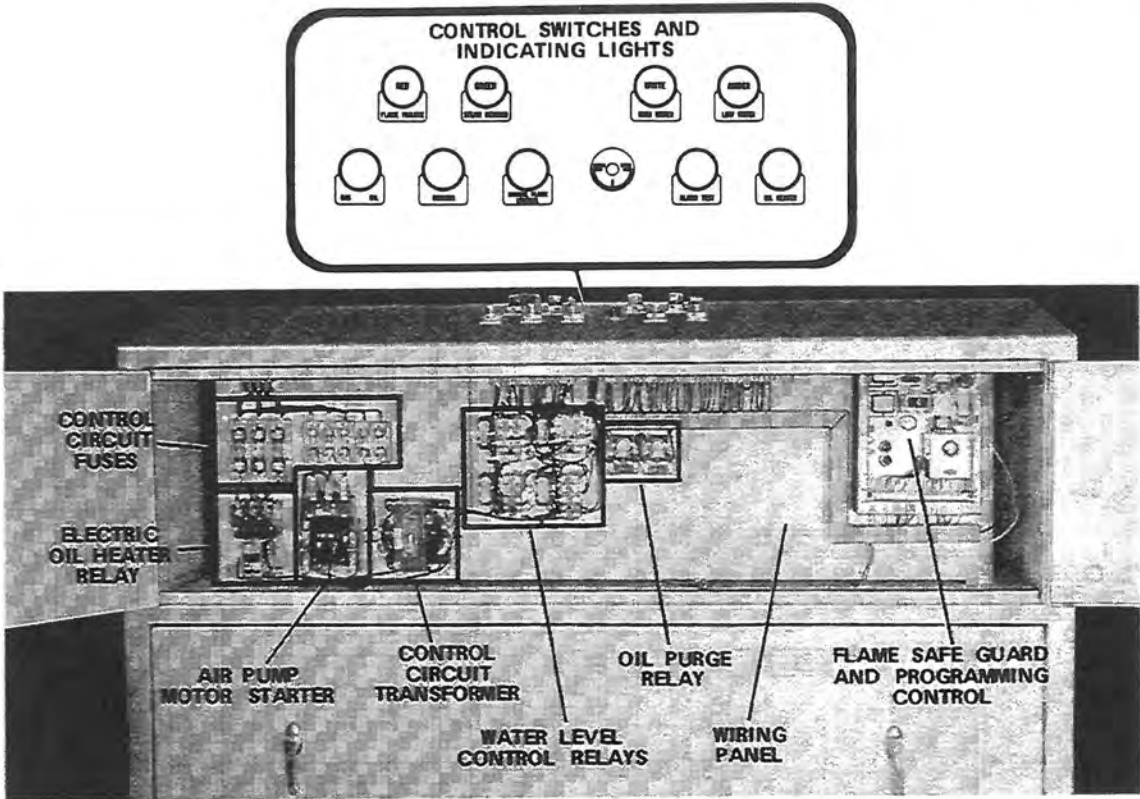
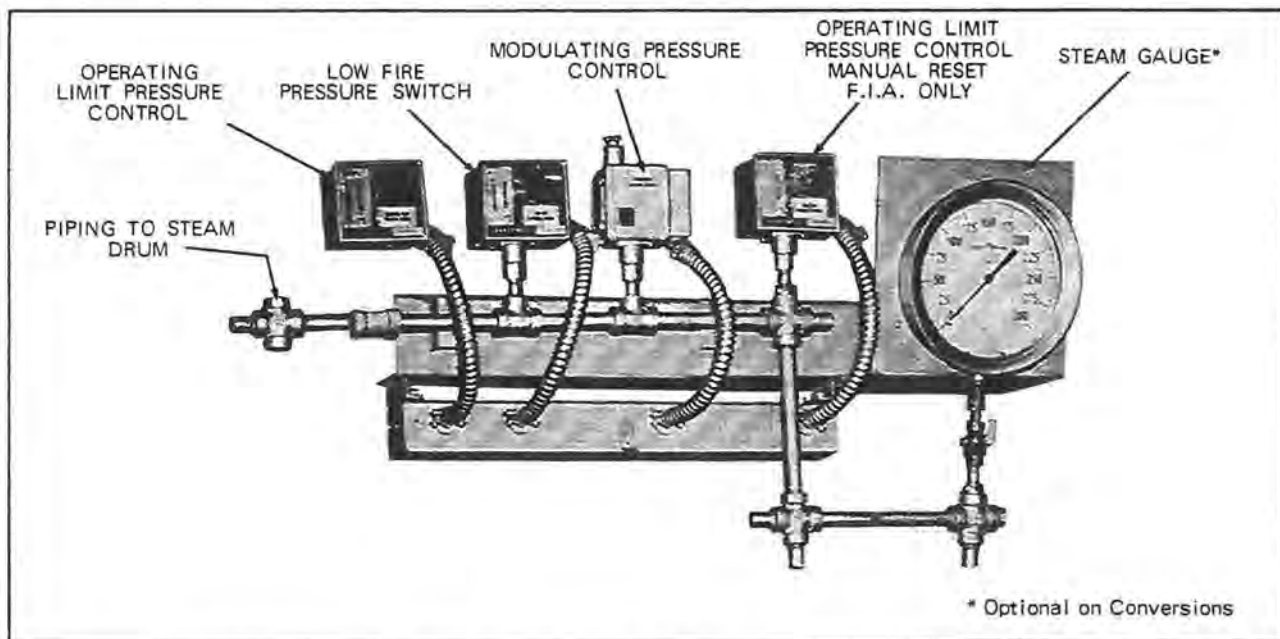

FIGURE 1-4 TYPICAL CONTROL PANEL
FIGURE 1-8 TYPICAL ARRANGEMENT OF PRESSURE CONTROLS
- (3) Forced Draft Fan Motor Starter (figure 1-4): Energizes forced draft fan (blower) motor.
- (7) Burner Switch (figure 1-4): A manually operated start-stop switch for directly starting and stopping operation of burner.
- (8) Manual-Automatic Switch (figure 1-4): When set at "automatic," subsequent operation is at
(9) Manual Flame Control (figure 1-4): A manually operated potentiometer that permits the
(10) Modulating Motor Transformer (not shown): Reduces control circuit voltage (115VAC) to required voltage (24VAC) for operation of the modulating motor.
(11) Indicator Lights (figure 1-4): Provide visual information on operation of boiler as follows:
(13) Operating Limit Pressure Control (figure 1-8): Breaks a circuit to stop burner operation on a rise of boiler pressure above a selected setting. It is adjusted to stop or start the burner at a preselected pressure setting.
(14) High Limit Pressure Control (Optional) (figure 1-8): Breaks a circuit to stop burner operation on a rise of pressure above a selected setting. It is adjusted to stop the burner at a preselected pressure above the operating limit control setting. The high limit pressure control is equipped with a manual reset.
(15) Modulating Pressure Control (figure 1-8): Senses changing boiler pressures and transmits this information to the modulating motor to change the burner's firing rate when the manual-automatic switch is set on automatic.
(16) Low Fire Pressure Switch (figure 1-8): Senses boiler pressure and limits the burner to low fire operation until boiler and casing is properly warmed and pressure reaches a pre-set point.
(17) Alarm Horn (not shown): Sounds to notify the operator of a condition requiring attention.
(18) Alarm Test Switch (figure 1-4) Used to check alarm wiring system during normal operation.
(21) Gas-Oil Switch (figure 1-4): To manually select circuitry for either oil firing or gas firing. (combination burner only)
(22) Programming and Flame Safe Guard Control (figure 1-4): Automatically programs each starting, operating and shutdown period in conjunction with operating, limit, and interlock devices. This includes in a timed and proper sequence the operation of the blower motor, ignition system, fuel valve(s) and the damper motor. The sequence includes air purge periods prior to ignition and upon burner shutdown.
- (1) Oil Heater Switch (figure 1-4): Manually provides power to oil heater system.